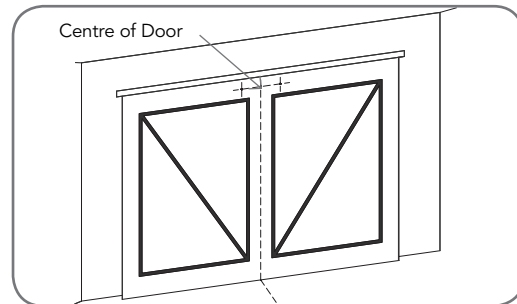

fig 15
- Draw two lines 21.5mm either side of this (Fig. 15).